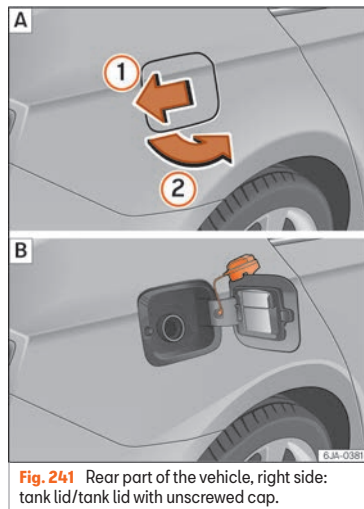

Fig. 241 Rear part of the vehicle, right side: tank lid/tank lid with unscrewed cap.
The correct type of fuel for your vehicle is indicated on a sticker on the inside of the fuel tank flap, along with the tyre size and pressure »» **Fig. 241 B**.
- Press the flap in the direction of the arrow ① »» **Fig. 241**.
- Open the cover in the direction indicated by the arrow ②.
- Unscrew the tank cap anti-clockwise and place it on top of the tank flap »» **Fig. 241 B**.
»» Fig. 241.
- Unscrew the tank cap anti-clockwise and place it on top of the tank flap »» Fig. 241 [B].